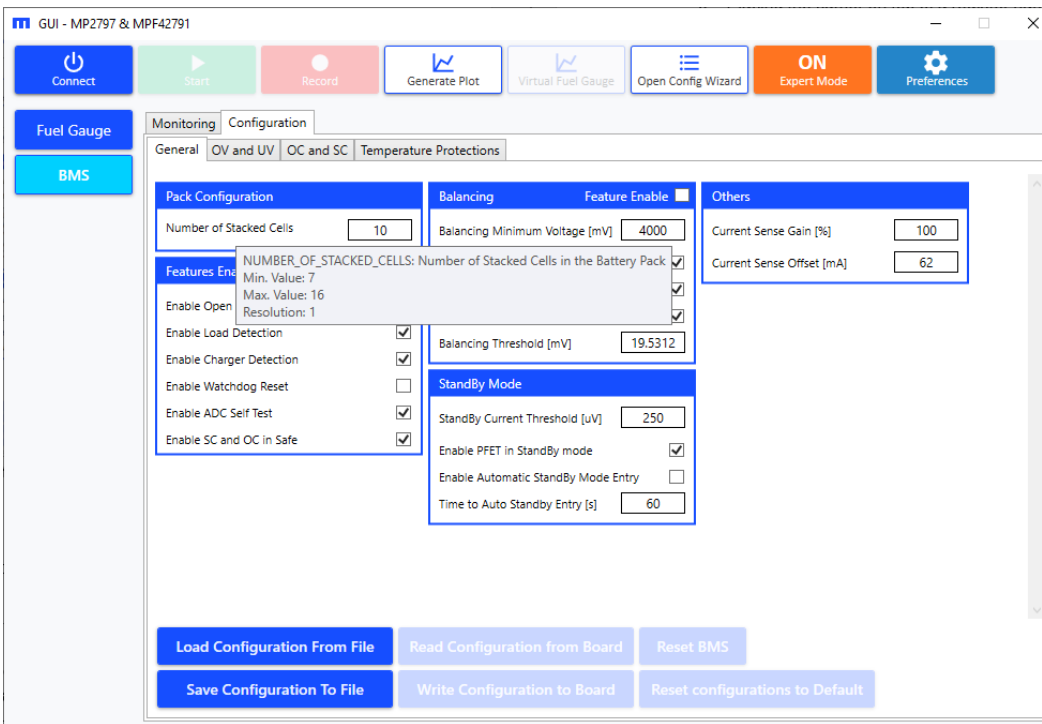
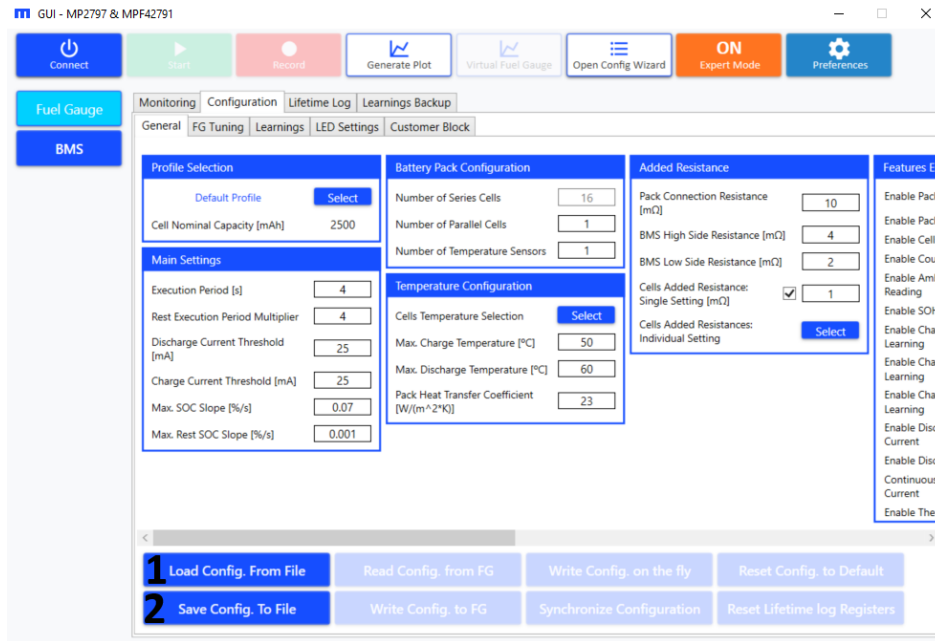

Figure 47: BMS Configuration (Register Details)
Figure 50: Fuel Gauge Configuration (Load and Save Buttons)
3. Place the cursor on top of the register name to display that register's information of that register (see Figure 47).
3. Click “Load Configuration from file” to open the file explorer (denoted as “1” in Figure 50 on page 39). Select a configuration file. If the file contains configurations that are in the correct format, the configuration parameters in the GUI are overwritten (see Figure 47 on page 35).
4. Click “Save Configuration to file” to open the file explorer (denoted as “2” in Figure 50 on page 39). Select the directory and the filename of the exported configuration file, which contains all configurations from the Fuel Gauge (see Figure 50 on page 38).